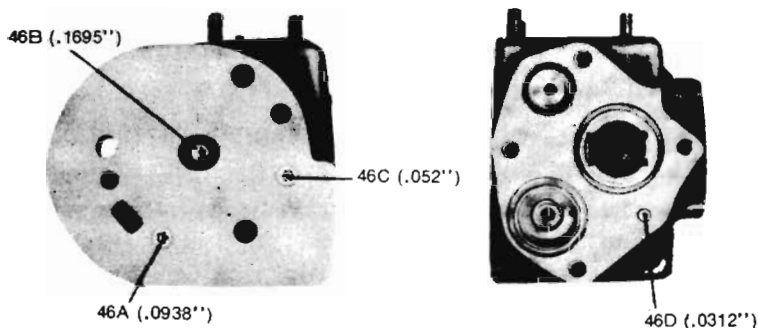

Figure 5
4.4 The service portion contains four choke plugs as shown in Fig. 5, which govern the flow of air through the ports in which they are located.